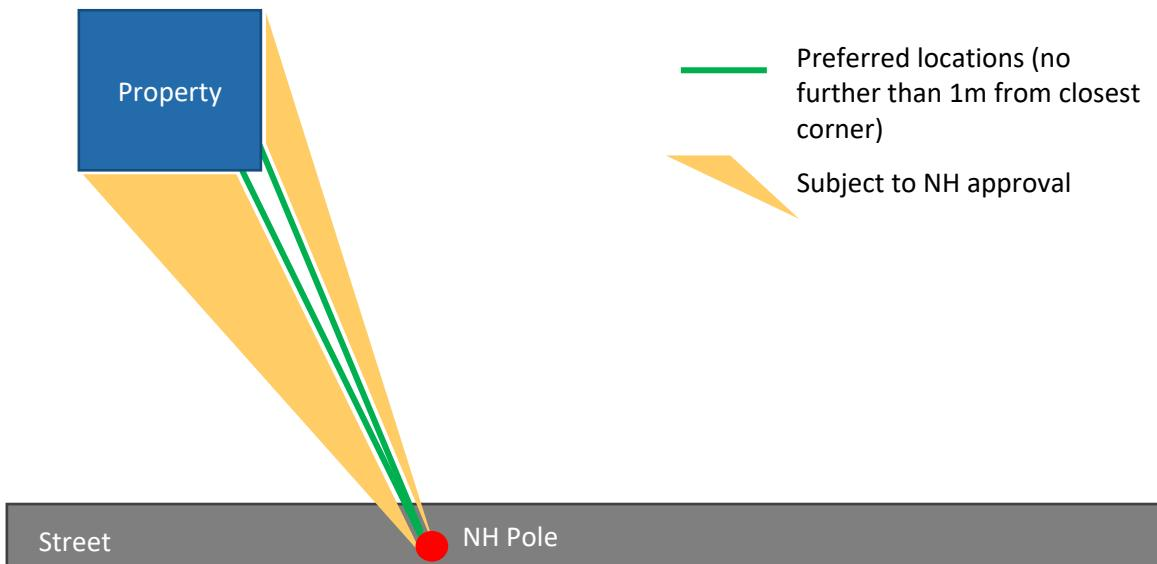

Figure 1: Point of Attachment Location
1. Except in the case of metering over 300 volts, the meter socket shall be surface mounted, located on an outside wall and in an approved location as per **Figure 1** or as agreed with NH Design.